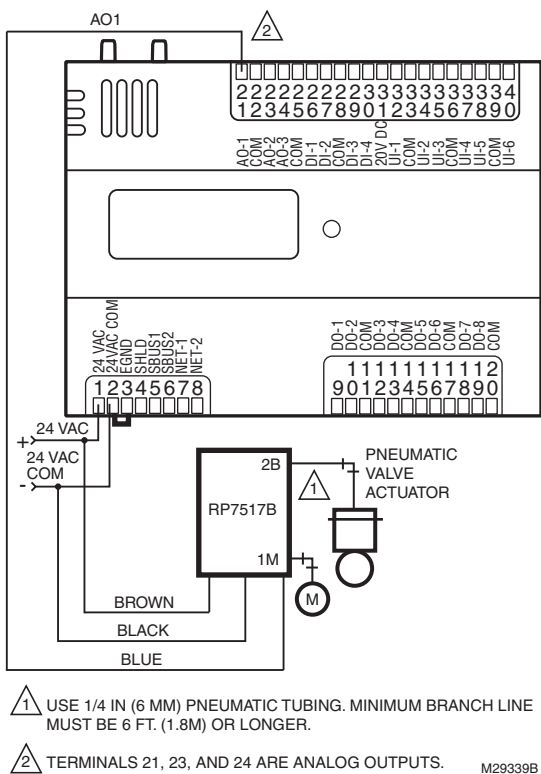

Fig. 20. Controller wiring diagram (model PUB6438S shown) for RP7517B pneumatic transducer.
- Typical controller wiring for a pneumatic transducer, model RP7517B (see Fig. 20 on page 19).